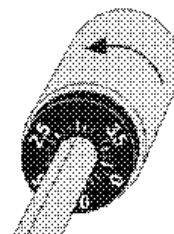

Fig. 6: Stylus pressure adjustment
- 8 The scale indicates the stylus pressure in grams. A stylus pressure of 3.5 g is required for the supplied stylus system. For this purpose, turn the counterweight (with the scale) counter-clockwise until the marking line on the tone arm points to "3.5" (Fig. 6).